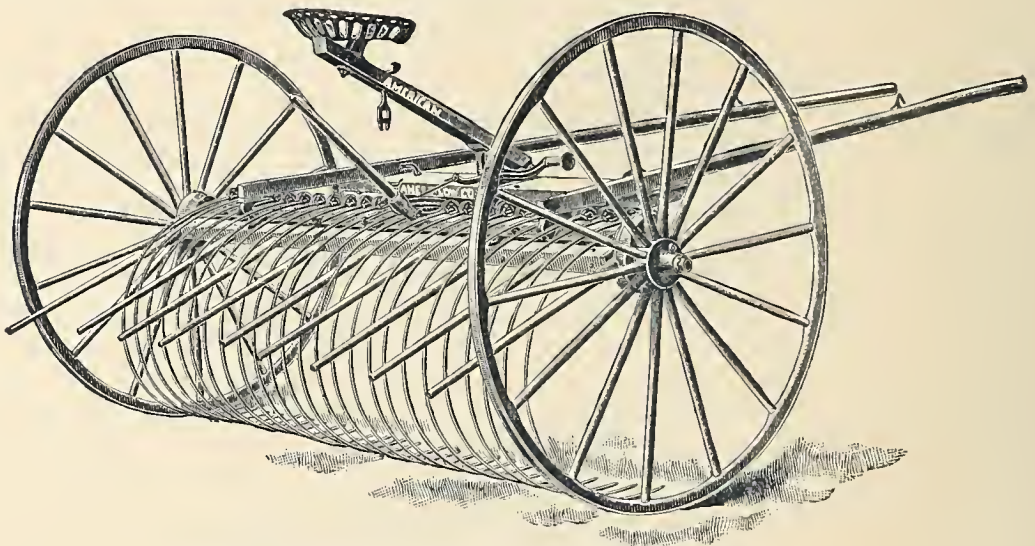

Fig. B 378.—The American Horse-Rake.
*The American Self-Dump Horse Rake*, which we present at *Fig. B 378*, is one of unsurpassed strength and durability and also one which has many points of excellence. A boy can easily operate it. It is made of best material and finished in our usual fine style.